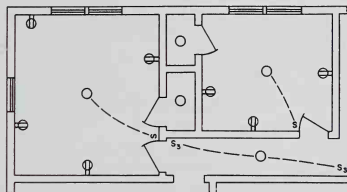

Fig. 10-5. House wiring diagram.
type of diagram is used by hobbyists and electrical repairmen to install and service electrical devices. Electrical diagrams for houses are a form of wiring diagrams, Fig. 10-5.
The electrical diagrams on house plans are usually included on a scale drawing of the floor plan, as in Fig. 10-5. See Fig. 12-9, page 103, for electrical symbols used in house wiring. In planning the wiring for a house, attention should be given to the following: (1) location of switches near doorways, halls, stairways and other convenient places; (2) location of ceiling outlets where desired in rooms, closets, halls and stairwells; (3) location of convenience outlets on walls for table lamps, radios, television, clocks, kitchen appliances, shop equipment, etc. Lines are drawn from switches to the